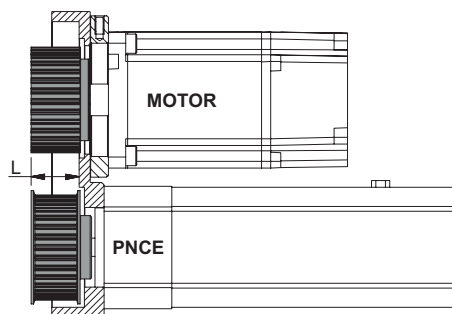

Figure 3: Clearance (pulley mounting distance L).
STEP 2: After the housing **1** has been mounted on the electric cylinder, the PNCE belt pulley **3** with the self locking device **4** and the toothed belt **5** must be fitted on the drive journal of the PNCE. Adjust the clearance (pulley mounting distance L) as it is shown in Figure 3 and Table 3. The self locking device **4** must be completely inserted into the bore of the PNCE belt pulley **3**. Tension the self locking device **4**.